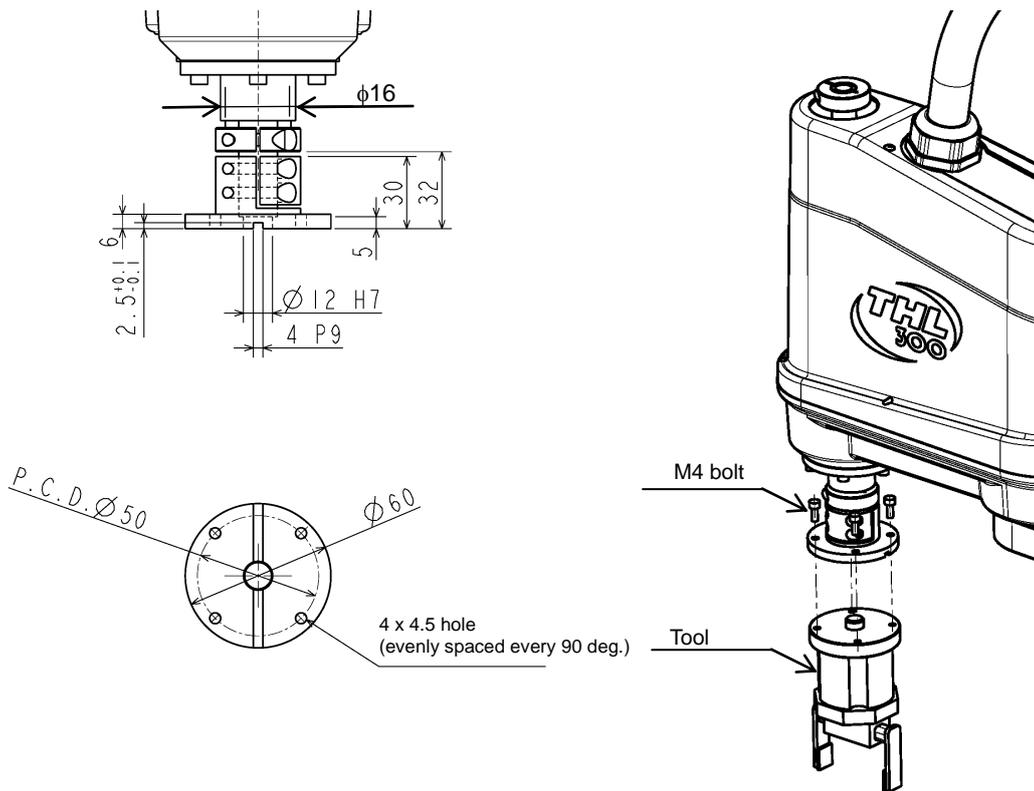

Fig. 16.1 Tool mounting dimensions (THL300 and THL400)
The tool is mounted on the end of the tool shaft. Dimensions of the tool shaft section are shown in Fig. 16.1. As shown in Fig. 16.1, the tool is centered with the $\phi 12H7$ mating section. The tool direction is adjusted by means of the 4 x 4 keys and secured with four (4) M4 bolts.